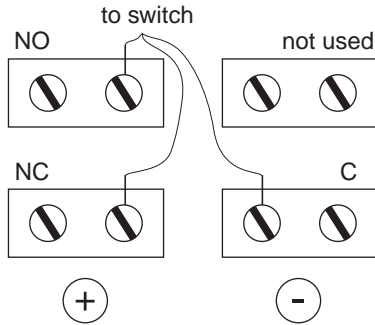

Figure 2
2. SPDT reed switch: Connect wiring to proper switch leads or terminals per wiring diagram. See figures 2 and/or 4.